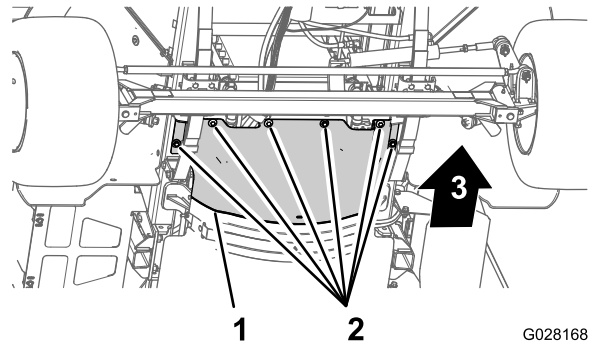

Figure 61
3. Remove the 6 hex-head bolts and 6 washers that secure the front, forward heat shield to the chassis and remove the shield (Figure 61).